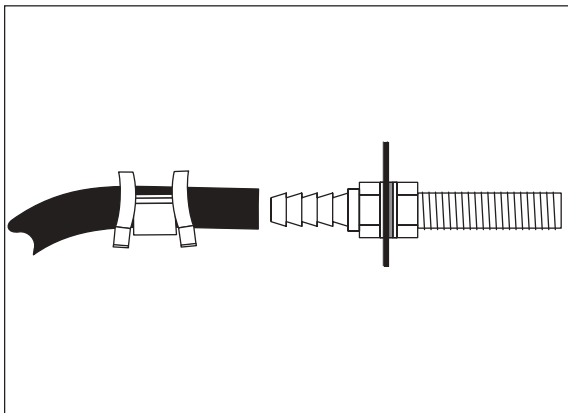

Figure 4
- k. Slide air line clamp over the air line. Push air line onto fitting covering all barbs, with pliers slide the air line clamp forward until it fully covers the barbed section (Figure 4).
- h. Slide a clamp onto the air line and push the air line over the fitting, covering all the barbs. With pliers slide the air line clamp forward until it fully covers the barbed section (Figure 4).